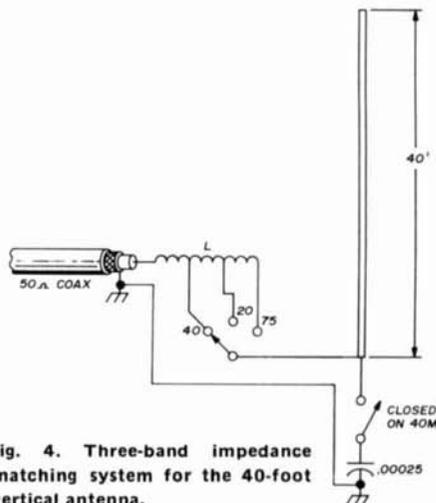

fig. 4. Three-band impedance matching system for the 40-foot vertical antenna.
1.0:1 on the first trial. The swr on 20 meters was up near 1.5:1 and minimum was with the little 11-pF variable wide open. Removal of the variable capacitor and moving the inductor tap one-half turn yielded an swr of 1.0:1. Apparently, the capacitance of the coil to the aluminum box housing the network was very close to the required 11-pF. The final circuit of the network is shown in fig. 4.